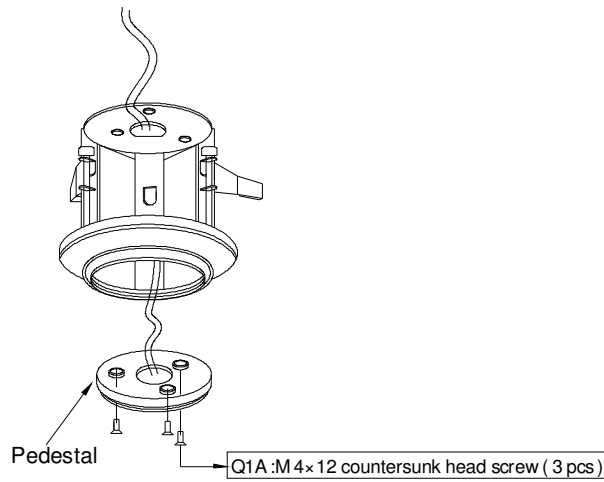

Figure 12
- 4) Fixup the “installation pedestal” with the embedded mount (reference Figure 12)